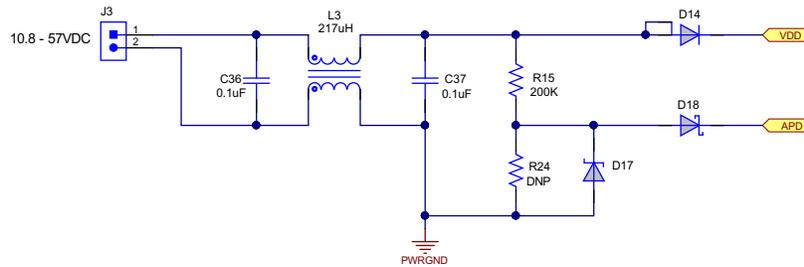
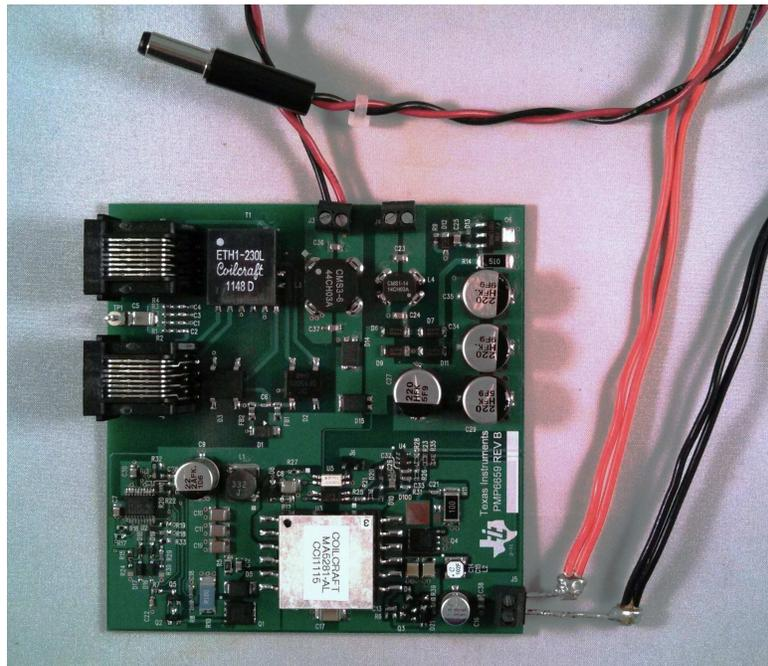

Figure 6. PMP6659 DC-Adaptor Input Schematic
Figure 7. PMP6659 DC-Adaptor Input Setup
As shown in Figure 6 and Figure 7, connect an adapter input or bench supply of 10.8 to 57 VDC to J3 (see Section 8 for the PMP6659 schematic). The output power is transmitted from the J5 connector.
2. 12-VDC input at J3 (see Figure 6 and Figure 7)